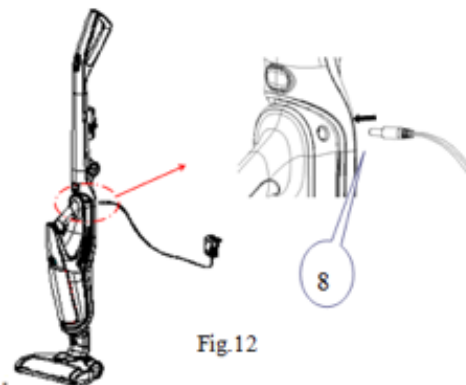

Fig 12
1. Insert the smaller end of Power adapter (8) into the charging hole of Sub unit by following the direction shown in Fig.12.